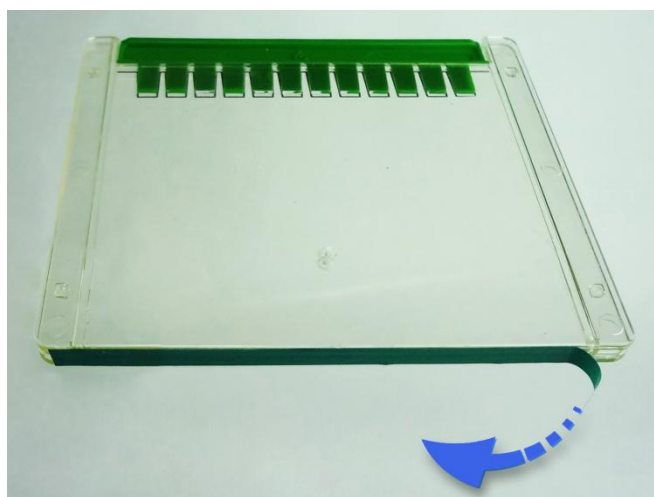

Figure 1. Peel the tape from the bottom of the cassette
2. Remove ExpressPlus™ PAGE Gel from the pouch, peel the sealing tape at the bottom of the gel cassette (see Figure 1).